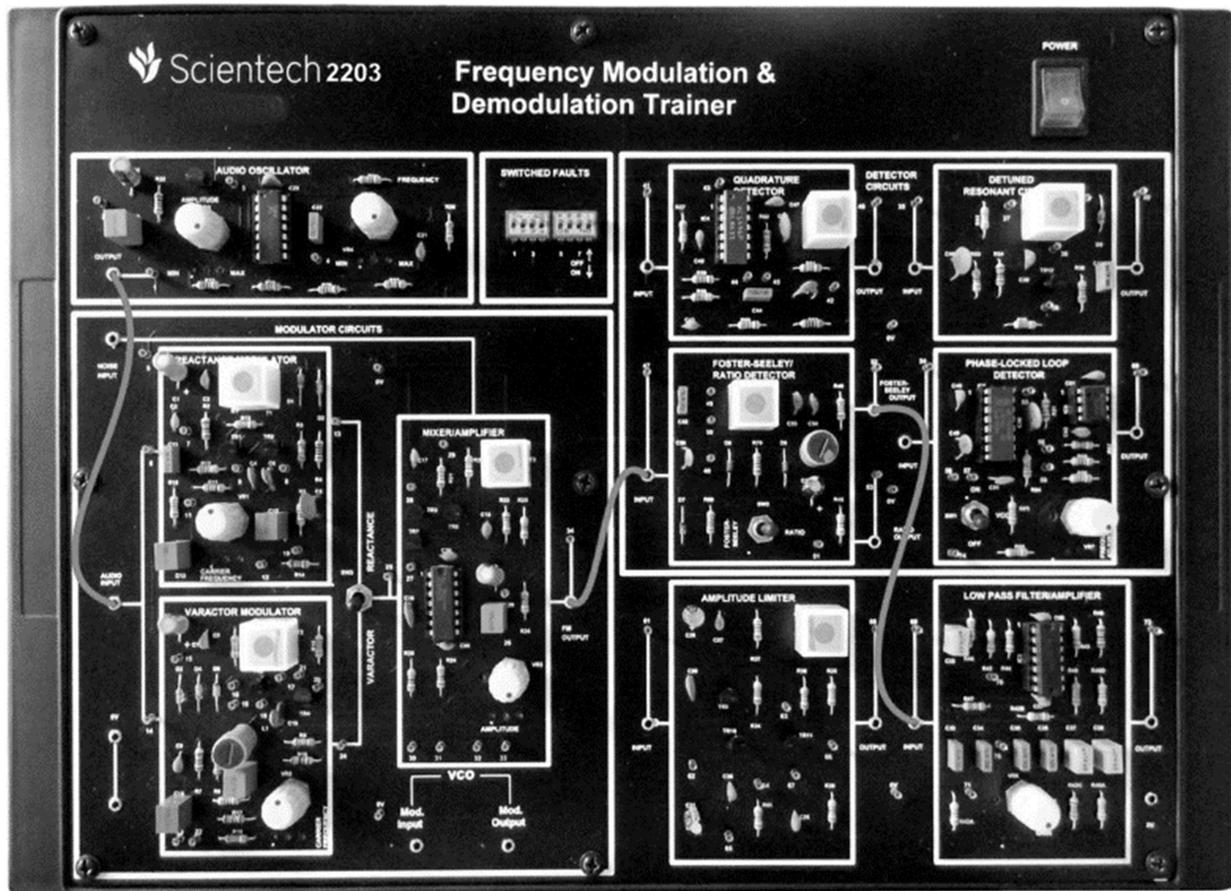

Figure 5 Connections for FM Demodulation using Foster-Seelley Detector
**Step 2** Make connection as shown in figure 5.